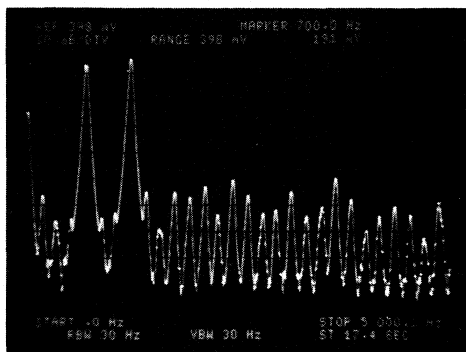

FIGURE 4 – SPECTRAL RESPONSE
Output. Pin 14 (10). An NPN transistor emitter with a collector tied to V+ drives the DTMF OUTPUT pin. The transistor base is connected to an on-chip operational amplifier that mixes the Row and Column Tones together. Figure 4 shows the timing at this pin.